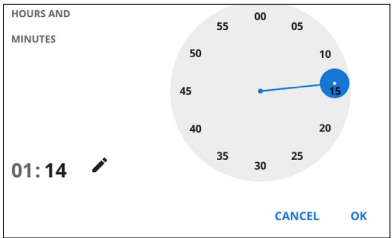

Fig. 60—(Right) If you used the spinner to set the hours of the period, then the display changes to allow you to set the minutes of the period.
- If you use the spinner, you may select from 1 to 23 hours. The first 12 hours are on the outside of the spinner, and the inner spinner is used to set 13 – 23 hours. After you make that selection, the spinner displays minutes and you may use the dial to set the number of minutes in the period (Fig. 60).